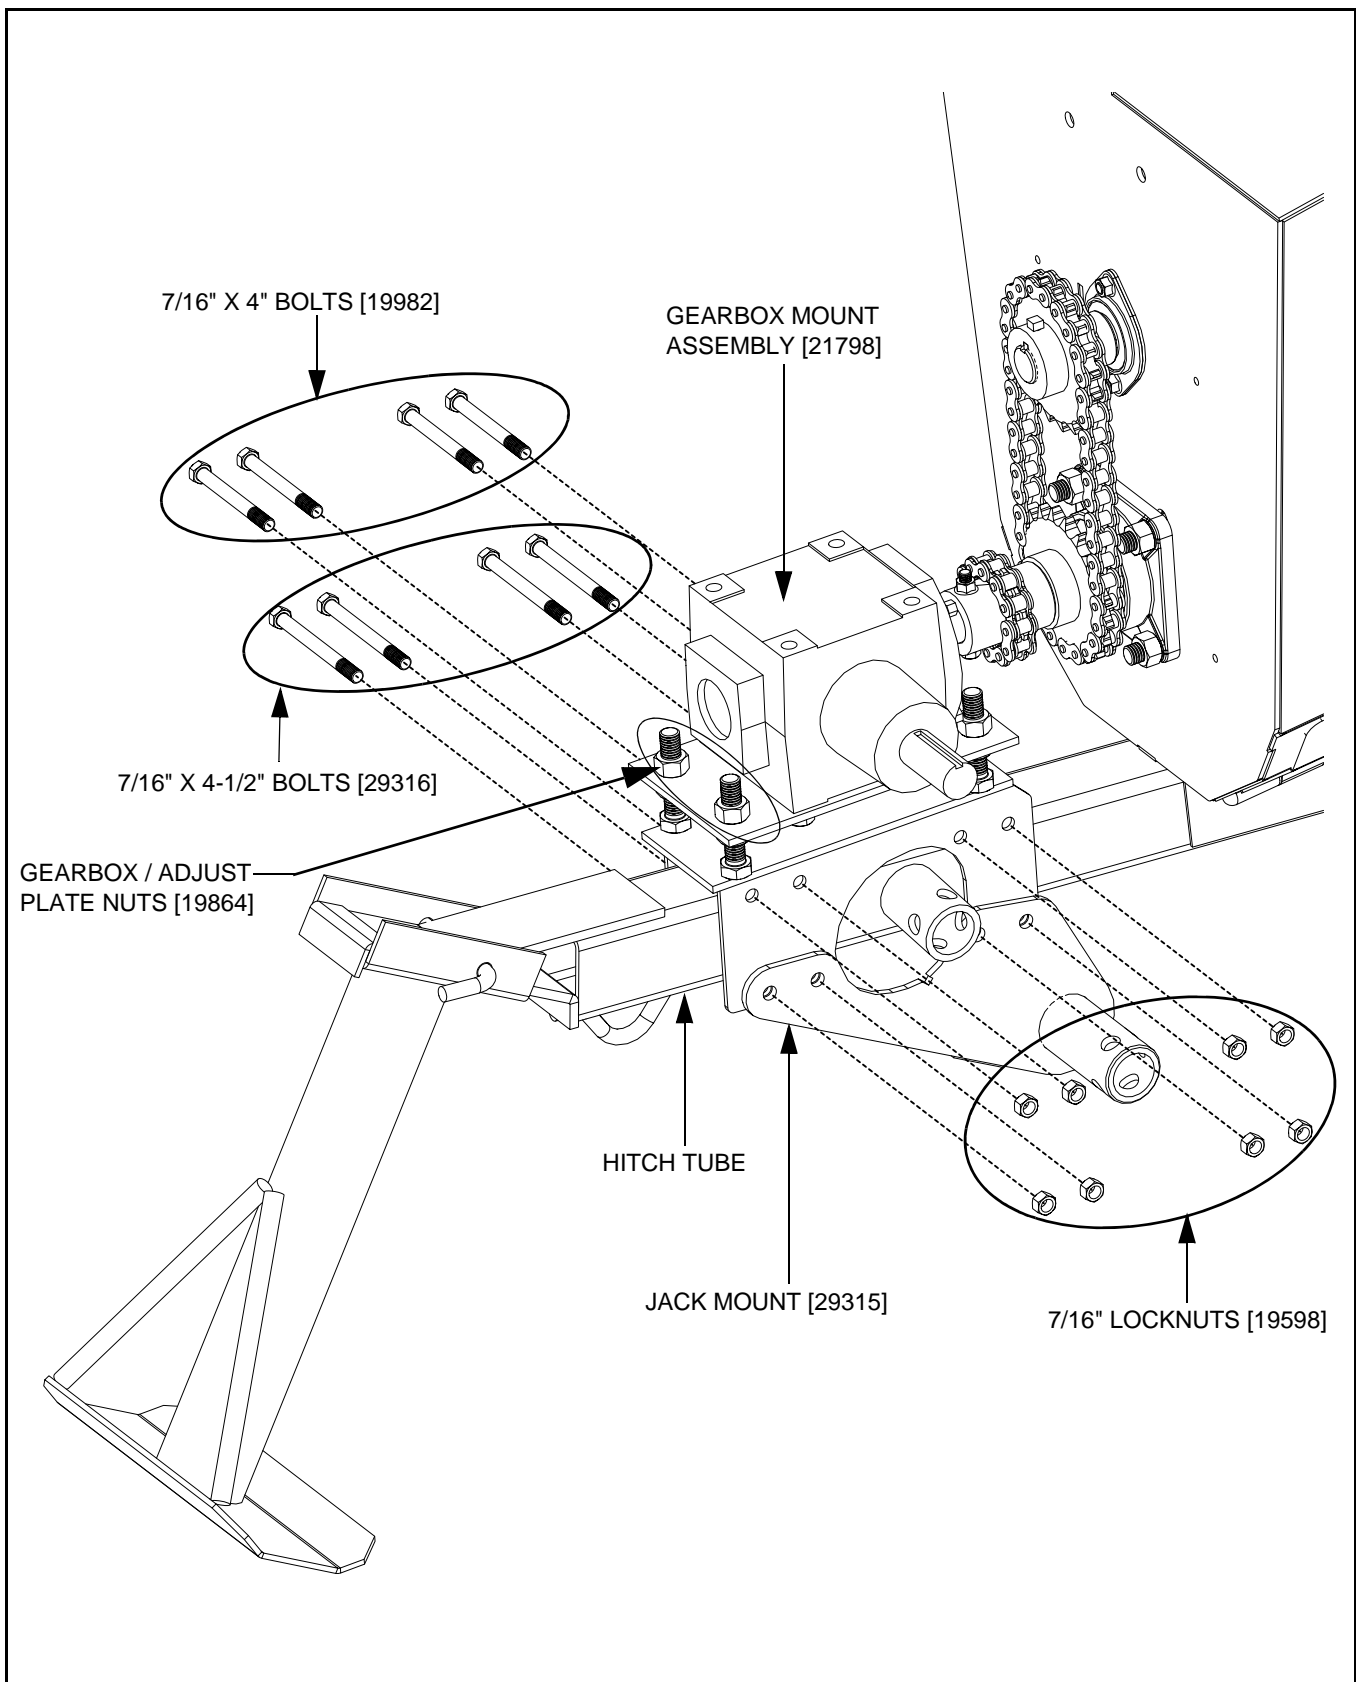

Figure 4 Installing Gearbox and Jack Mount
3. Insert 7/16" x 4" bolts through upper holes of the gearbox mount assembly and position over the hitch tube as shown in Figure 4. Secure with 7/16" locknuts.
4. Position the jack mount below the hitch tube, as shown. Loosely fasten with 7/16" x 4-1/2" bolts and locknuts as shown in Figure 4. Do not tighten these bolts until step 8.